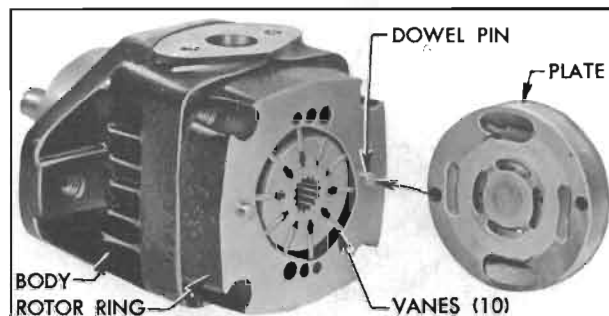

Figure 8-41—Pressure Plate, Ring, Rotor and Vanes
5. Mark position of pressure plate and remove plate from dowel pins extending through the rotor ring, then remove rotor ring, O-ring seal, rotor, vanes and dowels. See Figure 8-41.